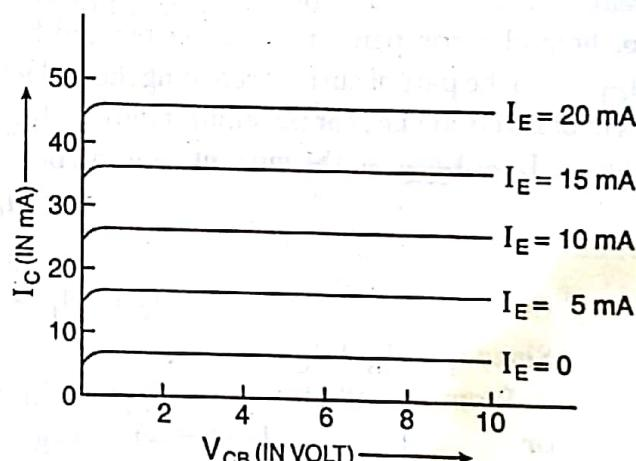

Fig. 8.4. Output characteristics in CB mode
(2) Output characteristics – For this characteristics, the emitter current I_E is kept constant and the collector-base voltage V_{CB} is varied with the help of the rheostat R_{h2} . Corresponding to each value of V_{CB} , the collector current I_C is read with the milli-ammeter mA_2 . Then a graph is plotted for the collector current I_C versus collector-base voltage V_{CB} . The experiment is repeated for different values of emitter current I_E . Fig. 8.4 shows the output characteristics. From these curves we note that